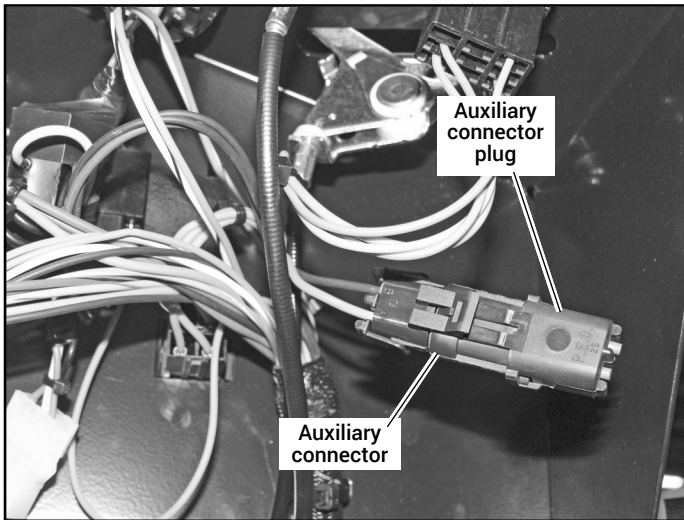
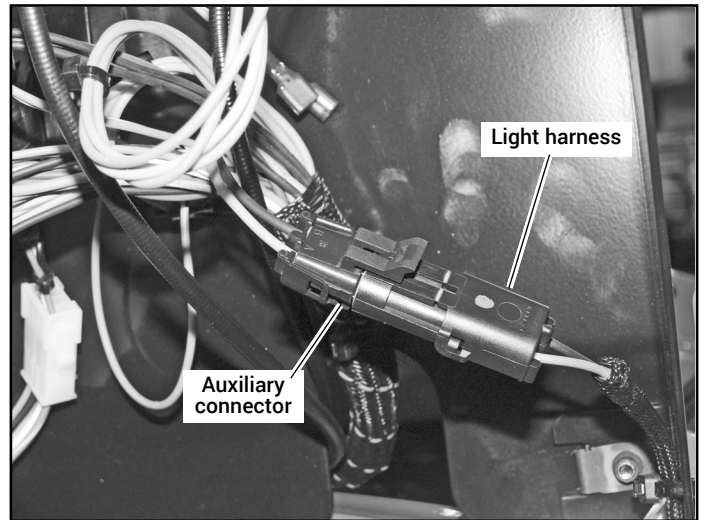

FIG. 8
FIG. 9
12. Locate the auxiliary connector on the mower harness. Remove the connector plug from the auxiliary connector and plug the pigtail from the light harness into the auxiliary connector. FIG. 8 & FIG. 9